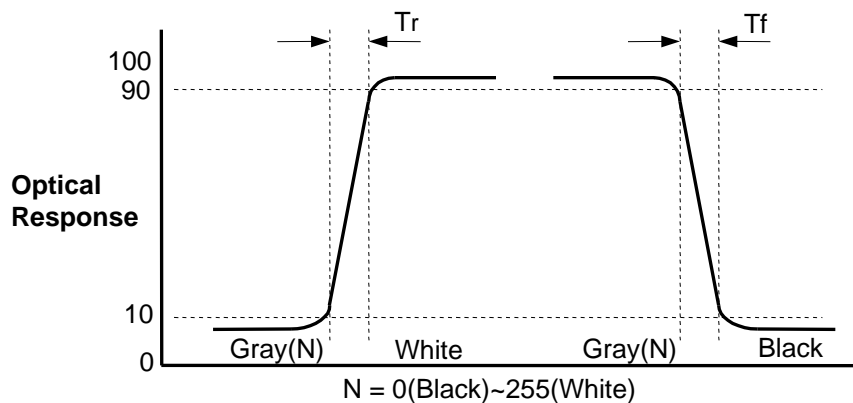

FIG. 3 Response Time
4. Response time is the time required for the display to transit from any gray to white (Rise Time,  $T_R$ ) and from any gray to black (Decay time,  $T_D$ ). For additional information see the FIG. 3.